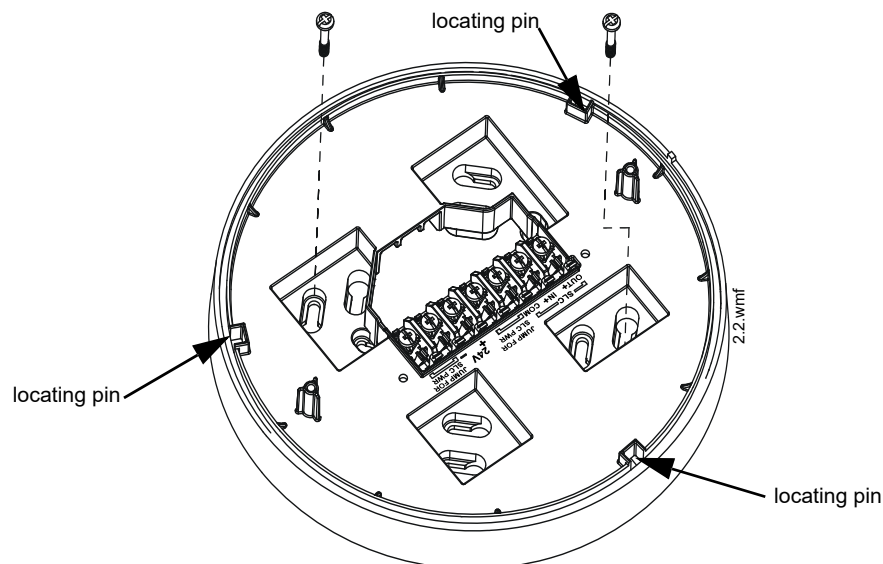

Figure 2.3 Mounting Plate for Wireless Gateway
2. Mount the mounting plate to the junction box or ceiling. See Figure 2.3 below.